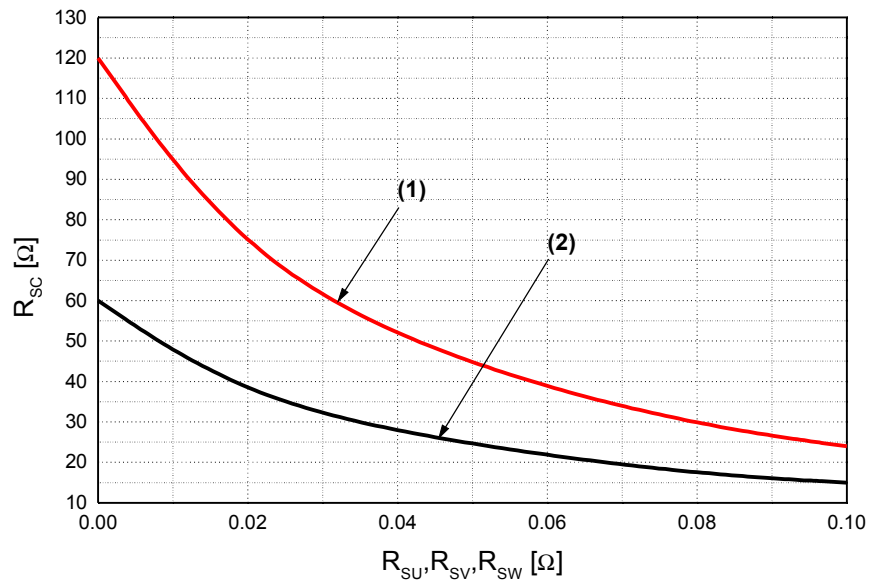

Fig. 7. R_{SC} Variation by change of Shunt Resistors (R_{SU} , R_{SV} , R_{SW}) for Short-Circuit Protection
- Short-circuit current protection is functioning only at the low-sides. It would be recommended that the value of the external sensing resistor (R_{SC}) should be selected around 60 Ω in order to make the SC trip-level of about 22.5A at the shunt resistors (R_{SU}, R_{SV}, R_{SW}) of 0 Ω . For the detailed information about the relationship between the external sensing resistor (R_{SC}) and the shunt resistors (R_{SU}, R_{SV}, R_{SW}), please see Fig. 7.